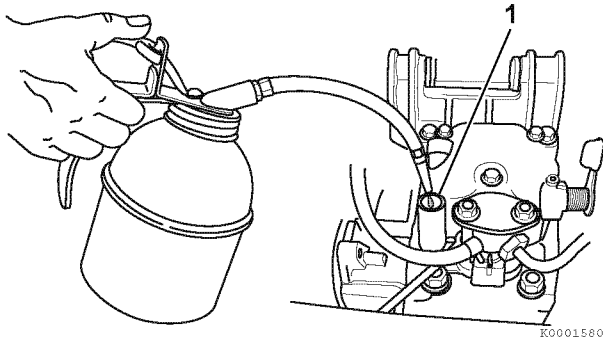

Figure 2
- 2- Add 2 cc of engine oil to the oil port (1, **Figure 2**).